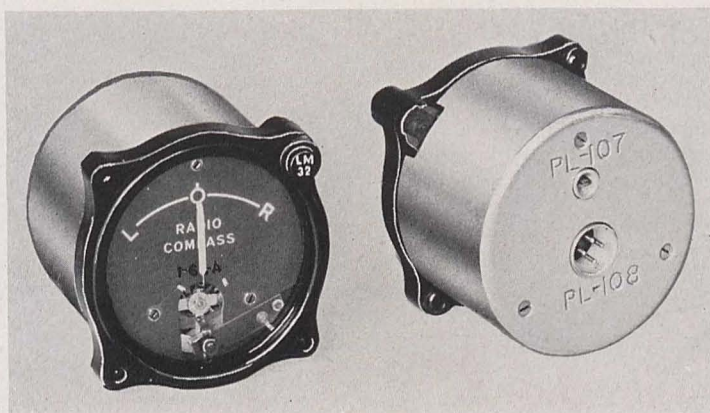

Figure 16—Compass Indicator I-65-A
- 2-7 **COMPASS INDICATOR I-65-A.**—Two Compass Indicators I-65-A are normally used with Radio Compass SCR-242-A, one for local operation and one for remote operation; however, no degradation in performance results if one of these indicators is not connected. These instruments are designed for instrument panel mounting and neither Local nor Remote Indicators should be used in aircraft without proper shock mountings. (See Figure 16.) The movement